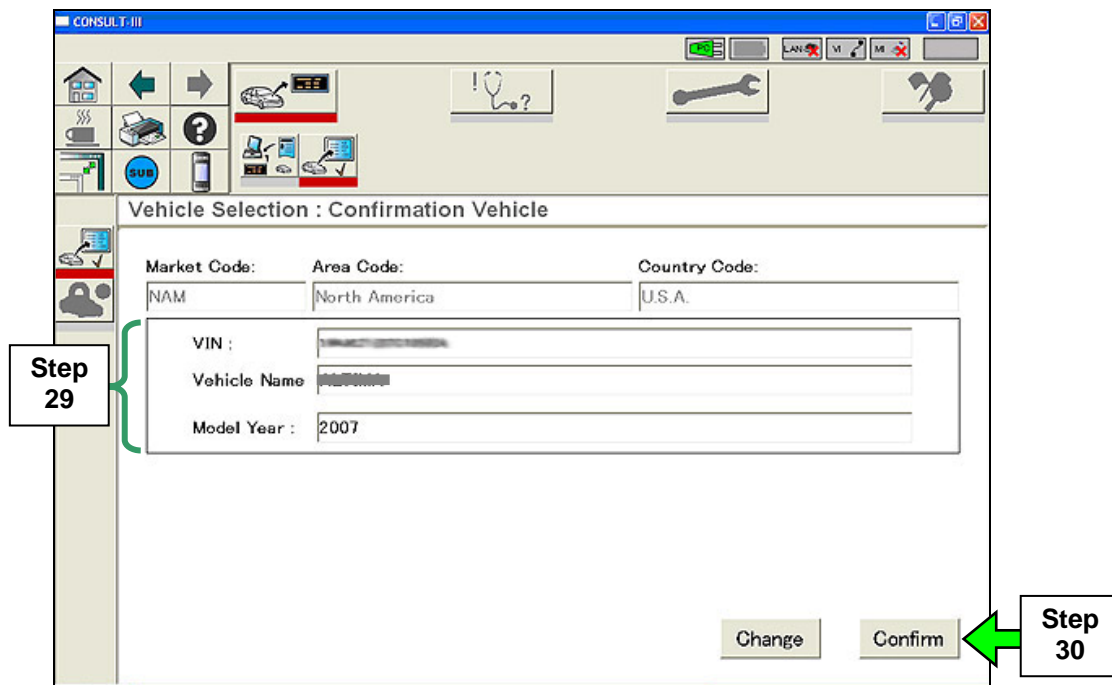

Figure 14
29 Make sure the correct vehicle is displayed (see Figure 14 for example).
30. Select **Confirm** (see Figure 14).
31. Select **Diagnosis** (see Figure 14).